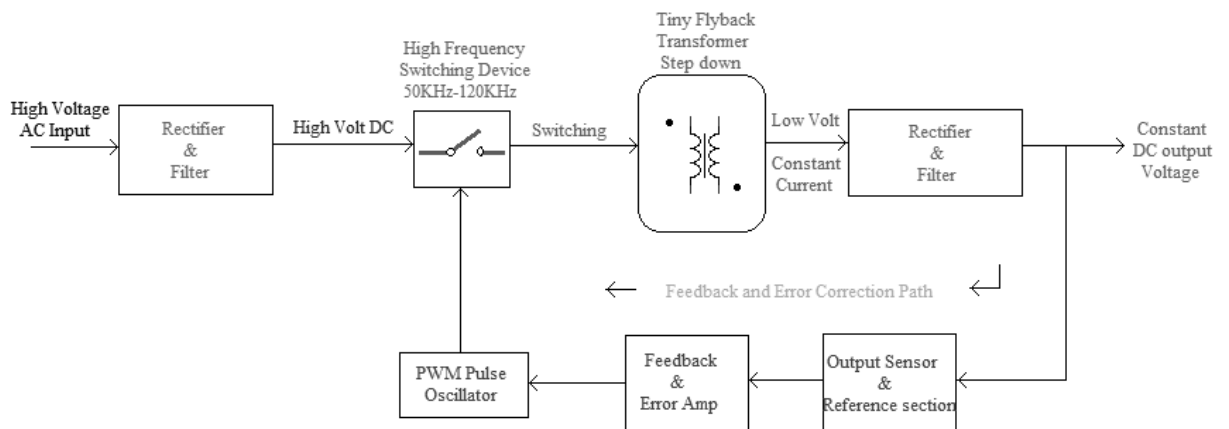

Fig. 15.2 Block diagram of SMPS
4. Measure the voltage at the output of Feedback and error amplifier. (Refer Fig. 15.2)